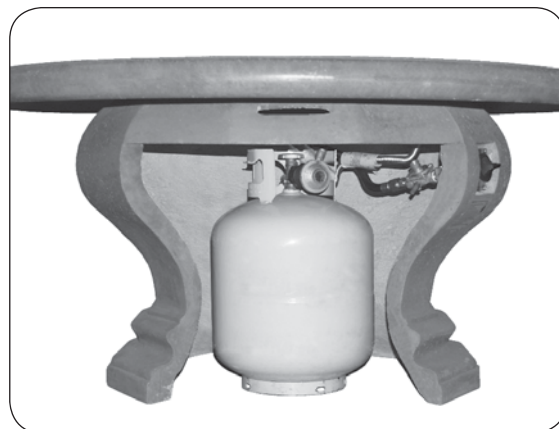

Fig. 23-2 L.P. Cylinder placement
3. The propane cylinder (not included) is to be located inside the base of the unit, via the storage door opening (see Fig. 23-2).